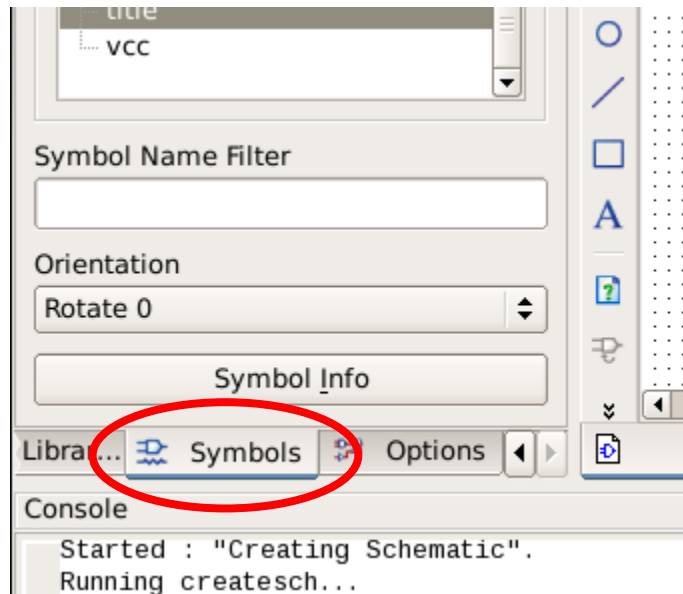

Figure 14: Symbols tab.
- Next, we add a title. In the **Symbols** tab in the left-hand pane (Figure 14), select **General** in the **Categories** list. In the **Symbols** list below, select **Title**.